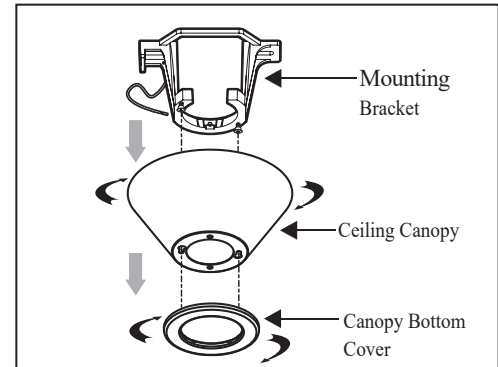

Figure 6
1. Remove the canopy bottom cover from the canopy by turning the cover counterclockwise. (Figure 6)
2. Remove the mounting bracket from the canopy by loosening the slotted canopy mounting screws a half turn from the screw head. Next, turn the canopy counterclockwise to remove the mounting bracket from the canopy. (Figure 6)